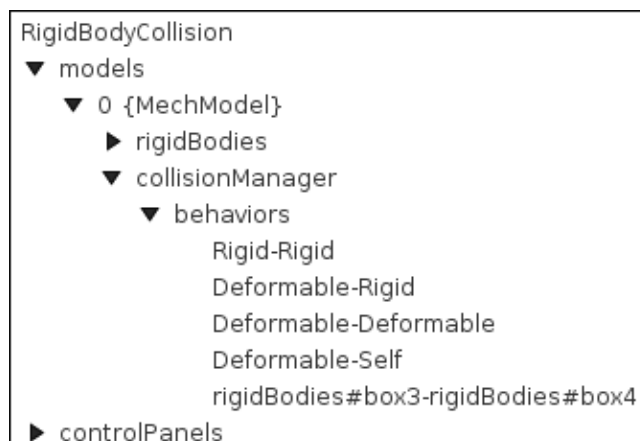

Figure 70: Expanded navigation panel showing the collision manager and individual behavior components for a `MechModel`.
- For more fine-grained control, one may also use the navigation panel to select one or more of the behavior components located under the collision manager (see Figure 70). The first four of these control the default behaviors. Other behaviors, if any, are overrides that have been added either by application code, or through the GUI. Once selected, one can choose “Edit properties ...” or “Edit render props ...” from the right context menu to edit their properties. In the case of override behaviors, the context menu can also be used to remove them.